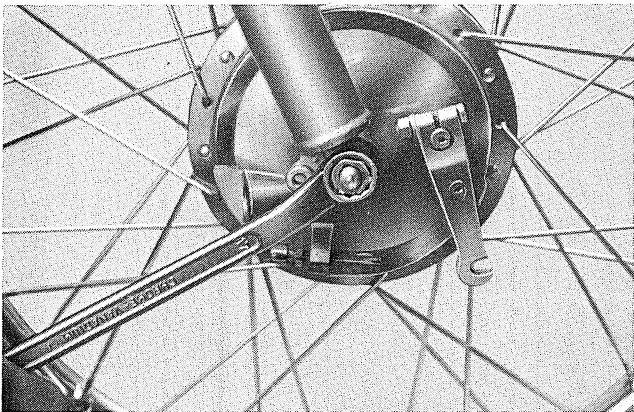

Fig. 4-1-3
- 2) Remove the front wheel nut, and pull out the wheel shaft. Then remove the distance collar. (Figs. 4-1-3 and 4)